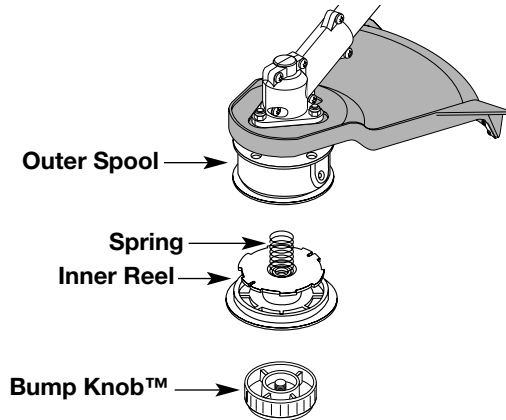

Fig. 11
1. Hold the outer spool with one hand and unscrew the Bump Knob™ counterclockwise (Fig. 11). Inspect the bolt inside the Bump Knob™ to make sure it moves freely. Replace the Bump Knob™ if damaged.
2. Remove the inner reel from the outer spool (Fig. 11).
3. Remove spring from the inner reel (Fig. 11).